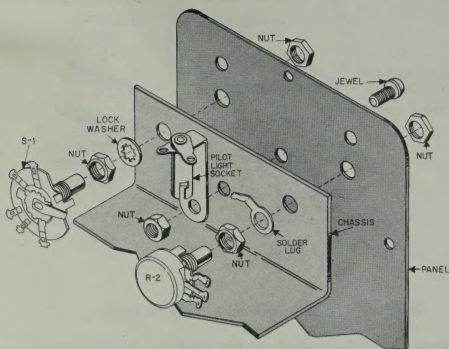

FIGURE 2. FASTENING THE CHASSIS TO THE PANEL
### SEE FIGURES 2, 3, 4, AND 5.
- ☐ Fasten the chassis and front panel together by mounting R-2, the CALIBRATE control, and the switch, S-1, through the holes in the chassis and panel. See Figure 2 for the nuts and washers used in this step.
- ☐ As shown in Figure 2, insert the pilot light jewel